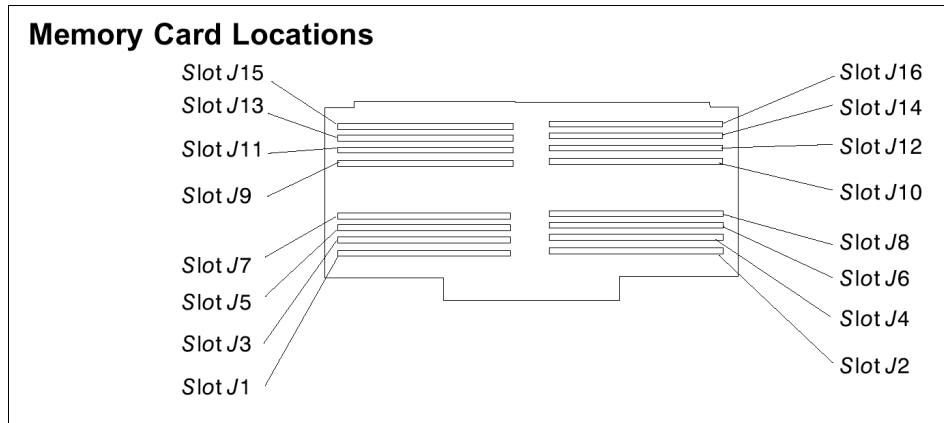

Figure 3-41 Memory card locations
- ▶ Memory DIMMs must be ordered and installed in pairs on the memory cards. They must be installed starting at the bottom of each card (card slot J1 and J2) and then moving up (Figure 3-41 on page 146).
Figure 3-41 on page 146 shows the memory card locations.